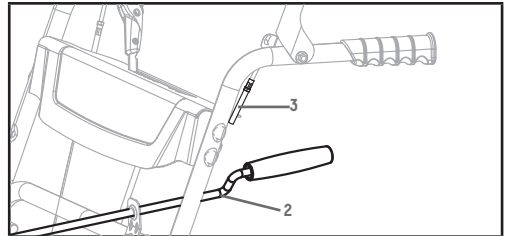

Figure 22C
2. Remove the lever (2) from the discharge chute bracket (Fig. 22C).
3. Unscrew the bolt of auger control wire (3) (Fig. 22C).